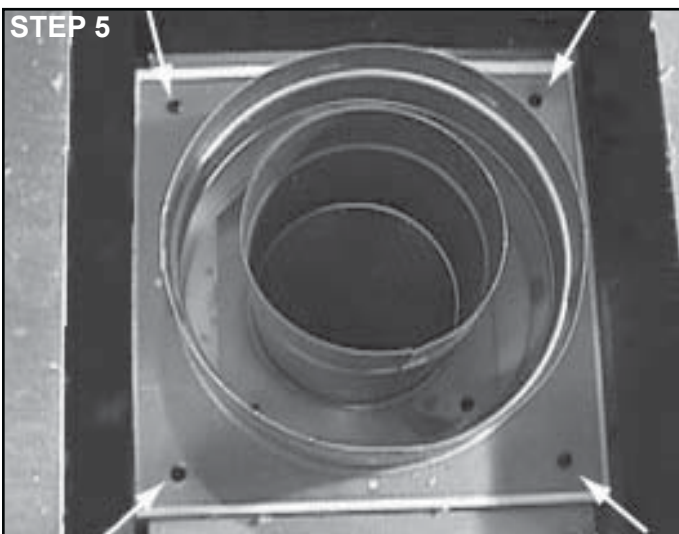

Figure 9.8 Outer Collar, Remove Four Screws
- Remove four screws holding outer collar to appliance top. See Figure 9.8. Remove outer collar.